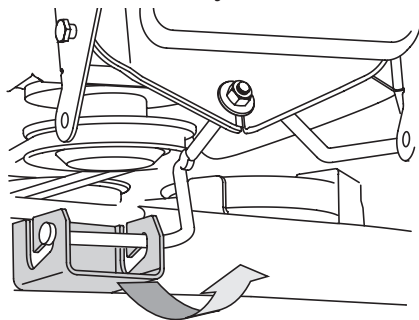

Figure 29
8. On 38" decks, gently slide the cutting deck toward the front of the tractor carefully guiding the hooks on the deck off of the deck stabilizer rod. See Figure 29.